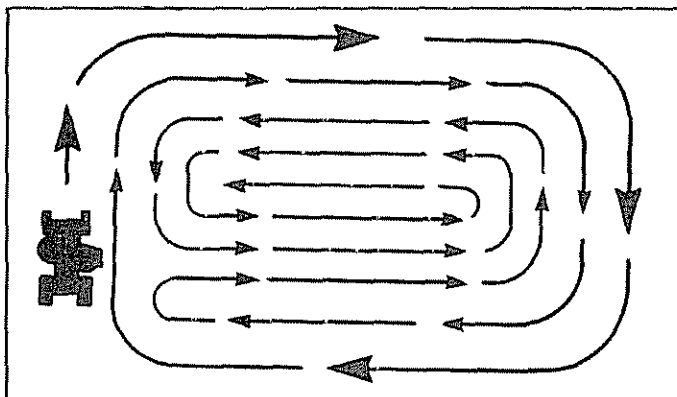

FIG. 17
- When mowing large areas, start by turning to the right so that clippings will discharge away from shrubs, fences, driveways, etc. After one or two rounds, mow in the opposite direction making left hand turns until finished (See Fig. 17).